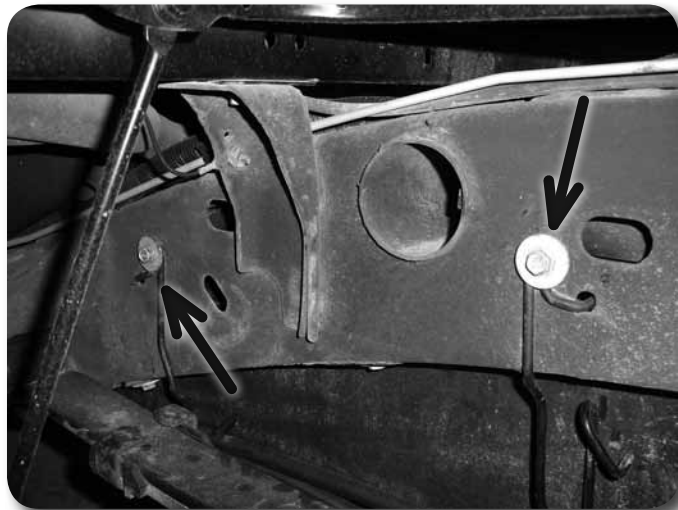

Figure 1
5. Disconnect the parking brake cable brackets (2) from the driver's side frame rail **Figure 1**. Save all hardware.